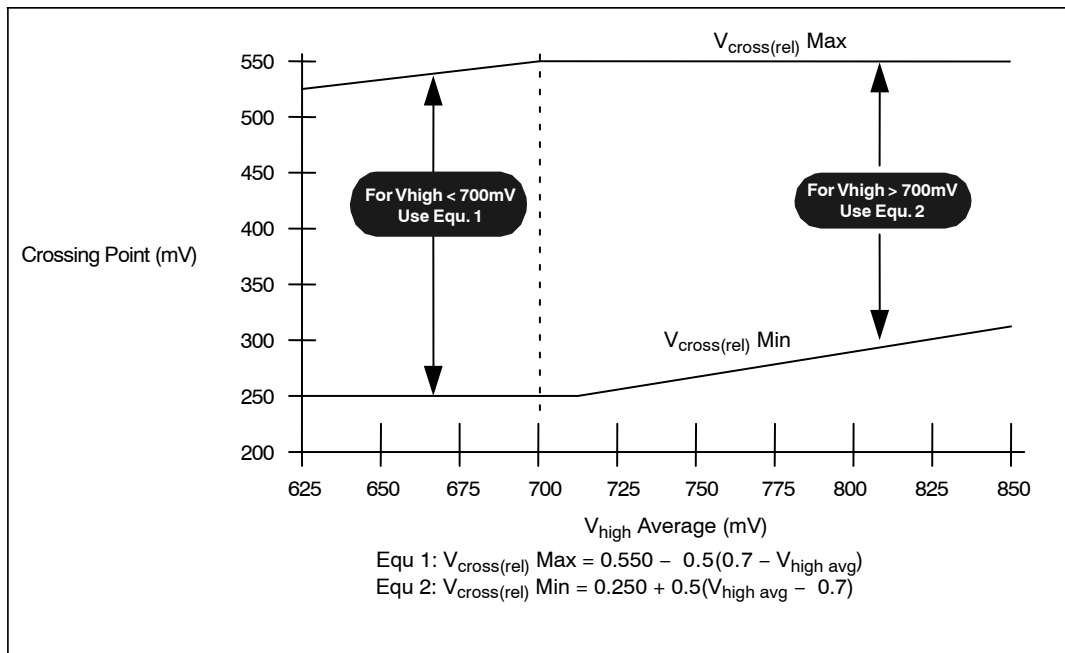

Figure 16. V_{cross} Range Clarification (Note 40)
16. Vcross(rel) Min and Max are derived using the following, Vcross(rel) Min = $0.250 + 0.5 (V_{high\ avg} - 0.700)$. Vcross(rel) Max = $0.550 - 0.5 (0.700 - V_{high\ avg})$. (see Figure 16 for further clarification).